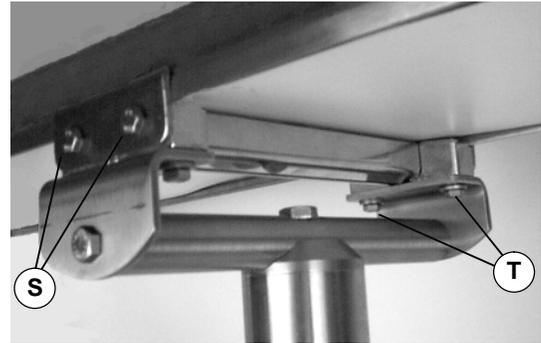

Figure 17
3. Attach clamp plates on each side of conveyor (Figure 17). Tighten the screws (S) to 92 in-lb (10.4 Nm).